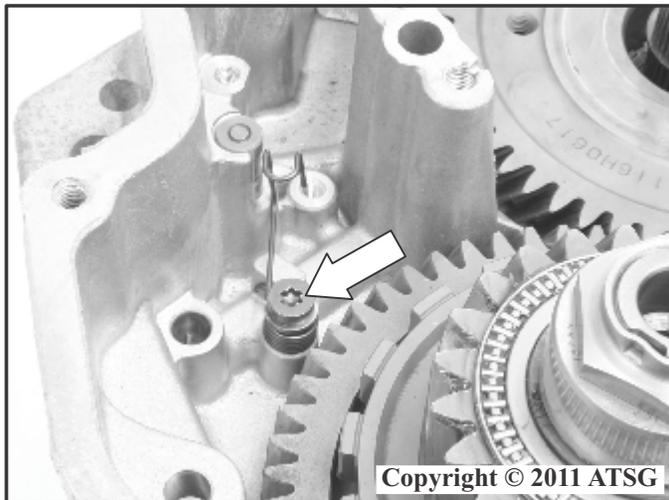

Figure 43
56. Remove the parking pawl pin spring retaining bolt as shown in Figure 43.
57. Remove the parking pawl pin spring and the guide sleeve/spacer as shown in Figure 43.